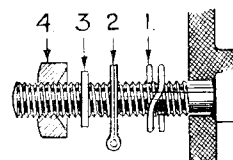

Fig. D.6.
The correct order for the assembly on the terminal, Fig. D.6, is spring washer (1) next to the bakelite pedestal, then the tag (2), lead washer (3), countersunk nut (4). A lead washer has been found necessary at this point as some cases of bad connection have been found. This assembly **must never** be shortened by leaving out the spring washer or by any other means, as this would probably result in breakage of the pedestal when the nut holding the cover in position was tightened.